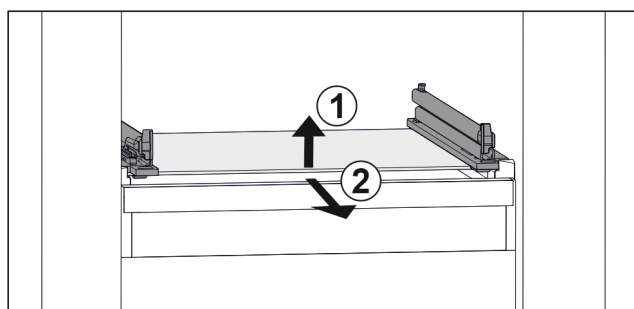

Fig. 25 Example illustration of glass shelf
- Lift glass shelf at the front. Fig. 25 (1)
- Take out glass shelf to the front. Fig. 25 (2)